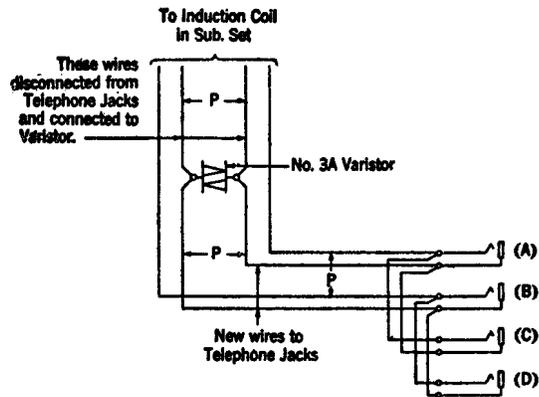

Fig. 10 - Connections for No. 3 Order Turret
**3.21** Connect the leads to the varistor and telephone jacks as indicated by Fig. 10.